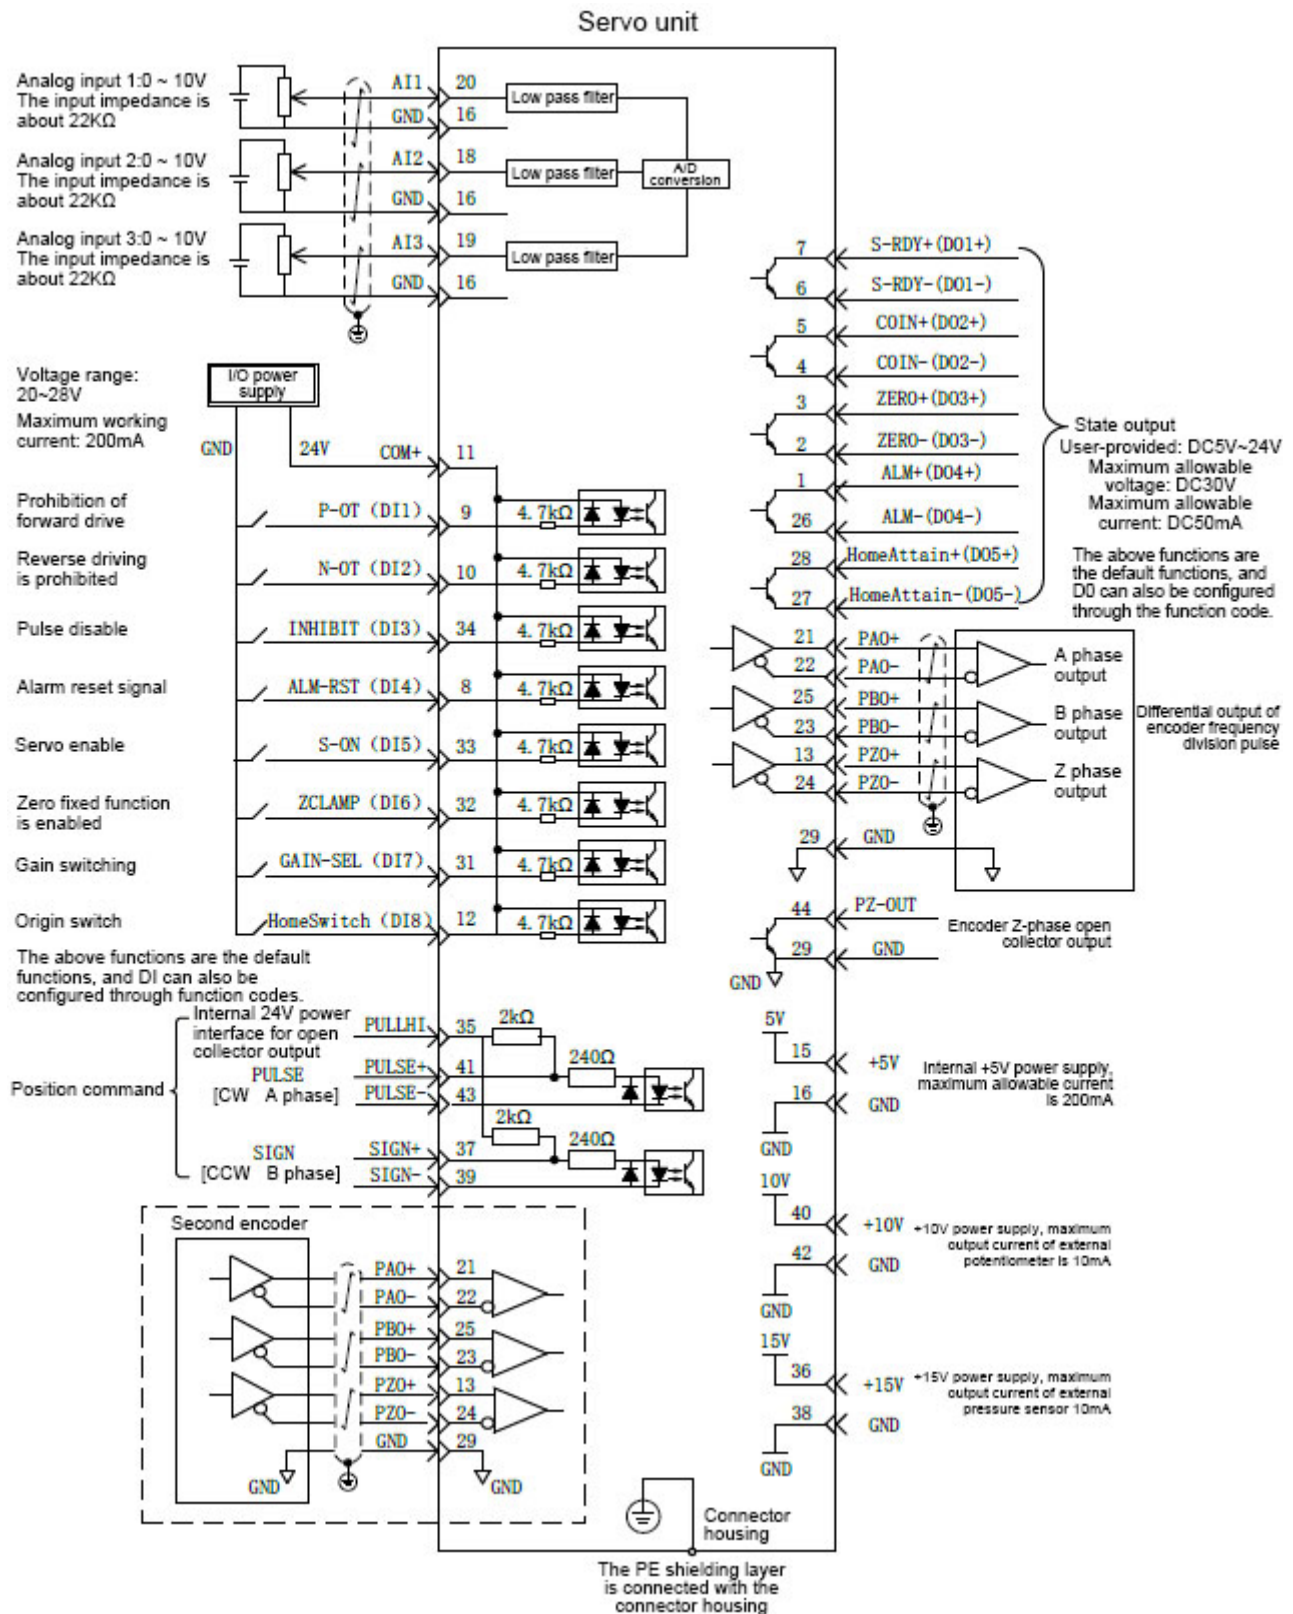

Figure 4-2 Position Mode Wiring Diagram
3. Refer to Figure 4-2 wiring to explain the pulse direction input, pulse command input and necessary DI/DO signals, such as servo enable, positioning completion signal, etc.